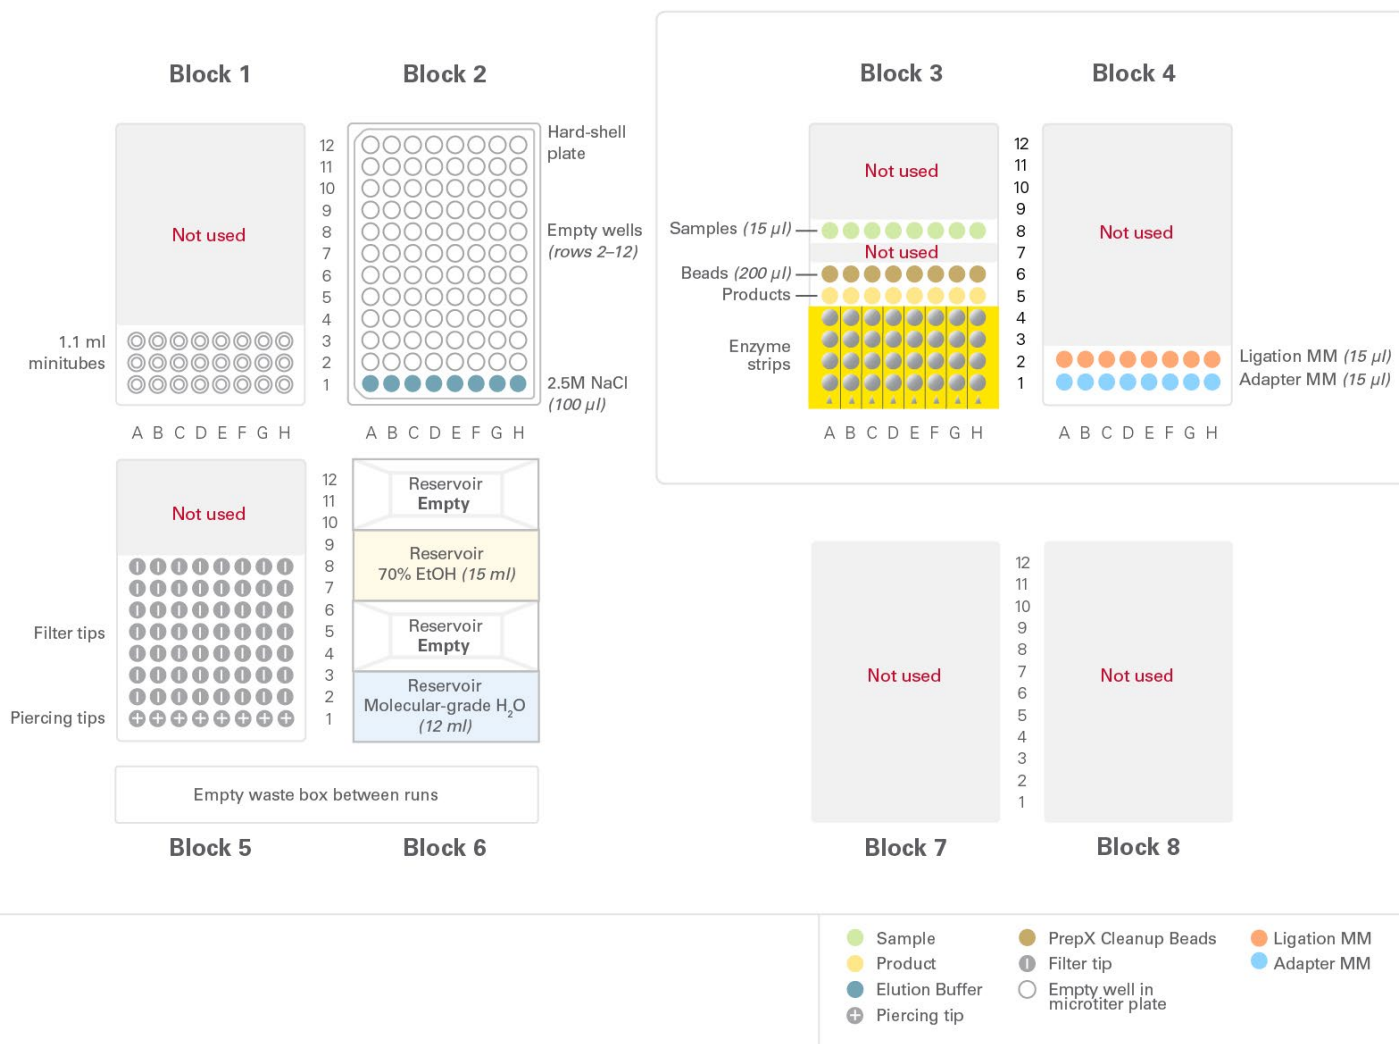

Figure 2. Deck layout for library synthesis from 8 samples. For this protocol, use script PrepX\_ILMN\_8. Run time is 80 minutes.
2. Load SMARTer Apollo consumables onto the SMARTer Apollo work surface according to the layout in Figure 2. First, load the SMARTer Apollo consumables that do not initially hold reagents (table above). Just before the run, load the SMARTer Apollo consumables containing reagents, but not samples, onto the system. For information on the deck layout when processing fewer than eight samples, please see Appendix C.
4. When the **Cooling** indicator has disappeared, and the **Run** button has appeared, load the samples, reagents, and remaining SMARTer consumables onto the SMARTer Apollo deck following the layout shown in Figure 2 and the instructions shown on the touch screen.
1. On ice, prepare the Amplification MM in a 1.5-ml tube, per the table below. Mix the Amplification Master Mix by vortexing gently, and then spin down. Aliquot 27 µl of this master mix into the wells indicated in Figure 2.